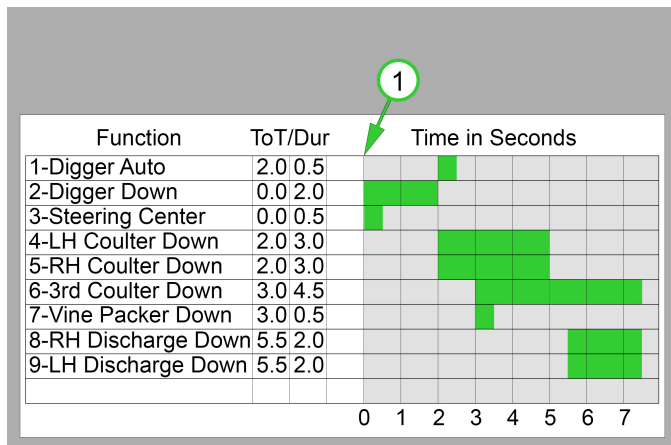

Figure 23
- There are nine start of row functions in the Start/End Of Row (SEOR) sequence. Scroll through the start of row functions to display and/or edit the associated *Turn on Time (sec)* and *Duration (sec)* values. Press soft keys 1 (*UP*) and/or 2 (*DOWN*) to scroll through the start of row functions. For an example of how the nine start of row functions could be programmed, see Figure 23. In the figure, (1) indicates when the *START* key is activated.